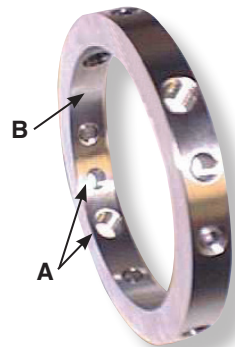

Figure 9
4.5 **Drive collar** [58] see Figure 9.